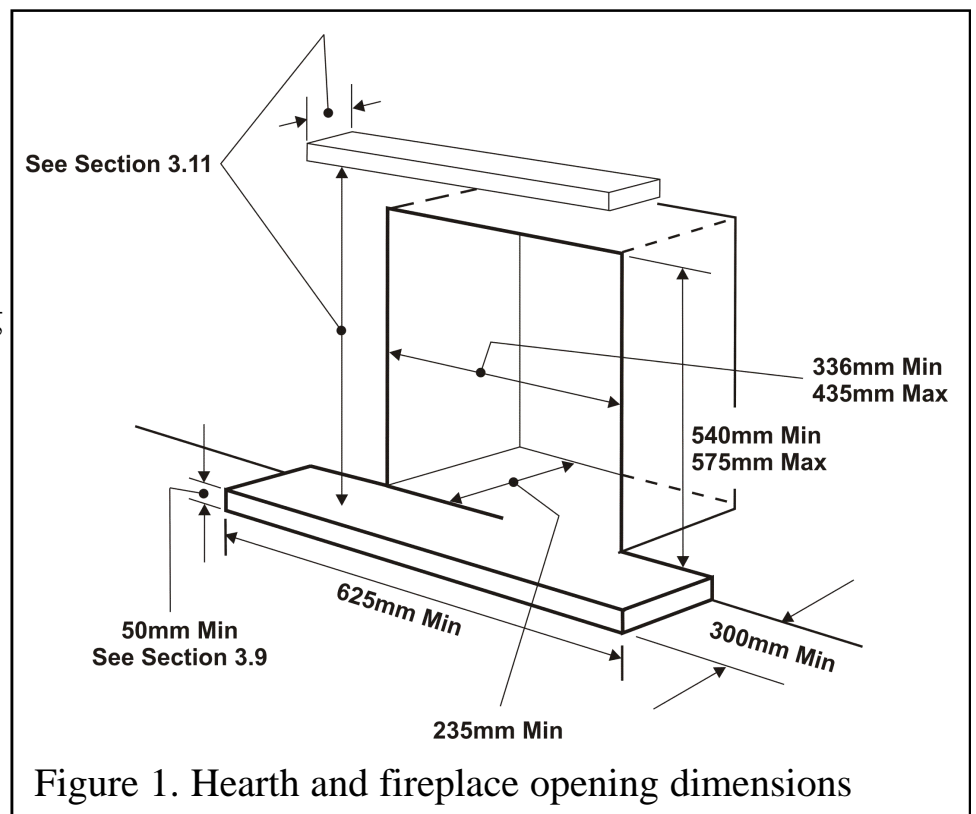
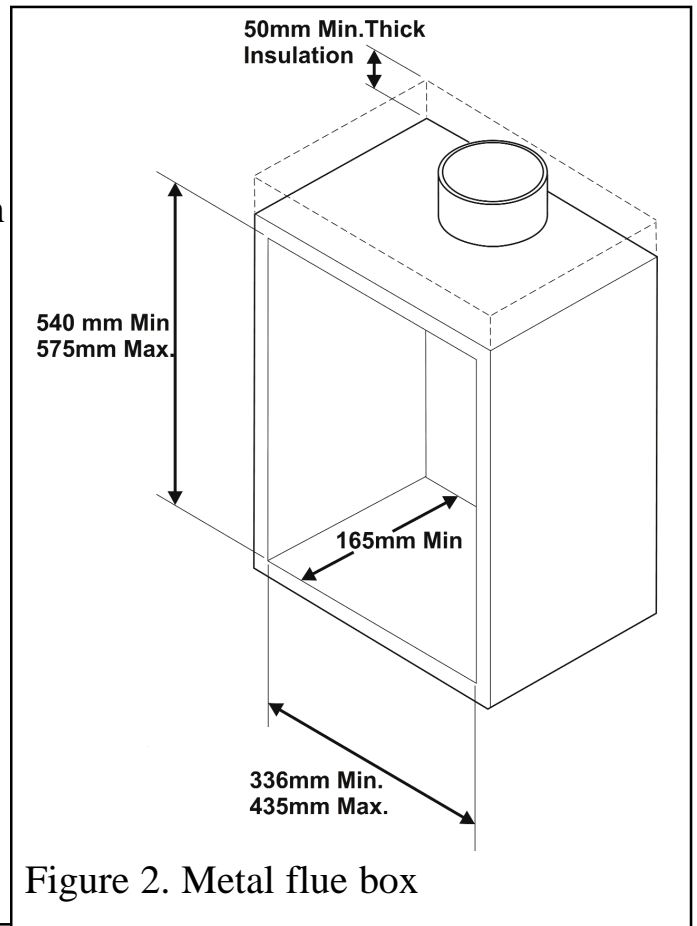

Figure 1. Hearth and fireplace opening dimensions
Figure 2. Metal flue box
- It is recommended that a hearth should be installed as in figure 1.
with a minimum internal depth of 165mm. Incombustible mineral wool insulation of not less than 50mm thickness must be applied to the top surface of the firebox (See figure 2) and it must stand on a non-combustible hearth (See figure 1).
3.9 The appliance must be mounted behind a non-combustible hearth (N.B. conglomerate marble hearths are considered as non-combustible). The appliance can be fitted to a purpose made proprietary class “O”-150°C surround. The hearth material must be at least 12mm thick. The periphery of the hearth (or fender) should be at least 50mm above floor level to discourage the placing of carpets or rugs over it. The appliance must not stand on combustible materials or carpets (See figure 1).